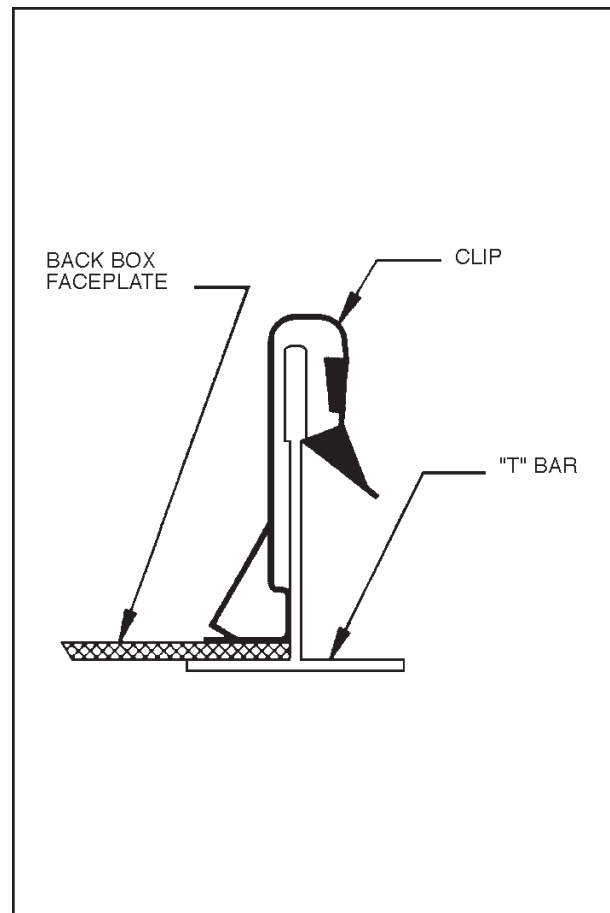

Figure 7. "T-Bar" Clip Installation
2. Remove trim ring and dome. Angle the back box through the grid opening and set the box into the grid. If additional support of the back box is required, thread the two (2) 1/4-20 eye bolts (supplied) into the two attachment points in the top of the back box and hang the unit per local code.
3. From an opening in a grid adjacent to the back box, apply the four (4) clips supplied to the "T" bar for support (refer to Figure 7).